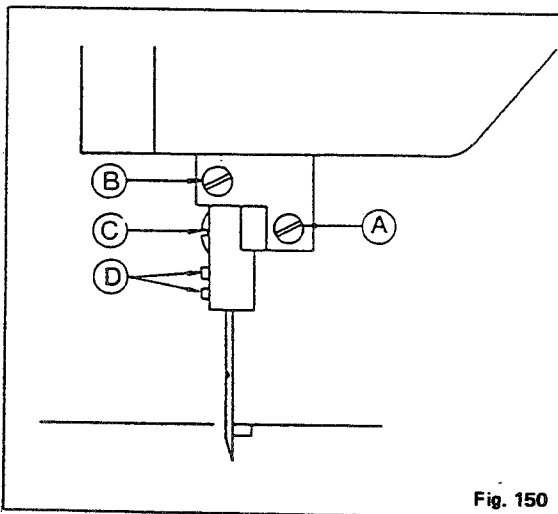

Fig. 150
Loosen screw (D) in Fig. 150 and remove the center knife.
Loosen screw (D) in Fig. 150 and attach the center knife.